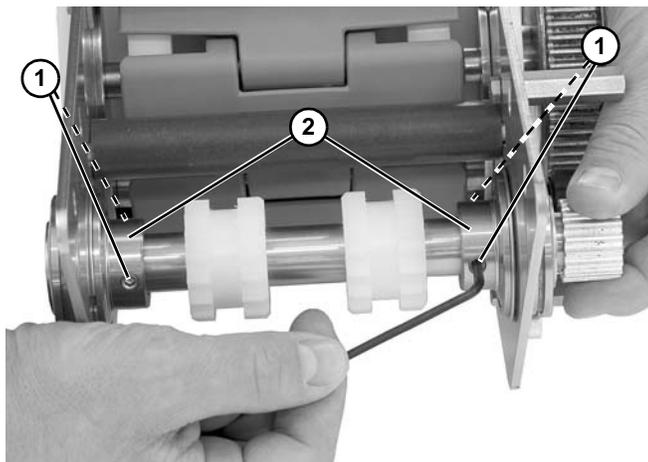

Figure 68
14. Loosen four set screws (**Figure 68, item 1**) on two bearings (**Figure 68, item 2**).